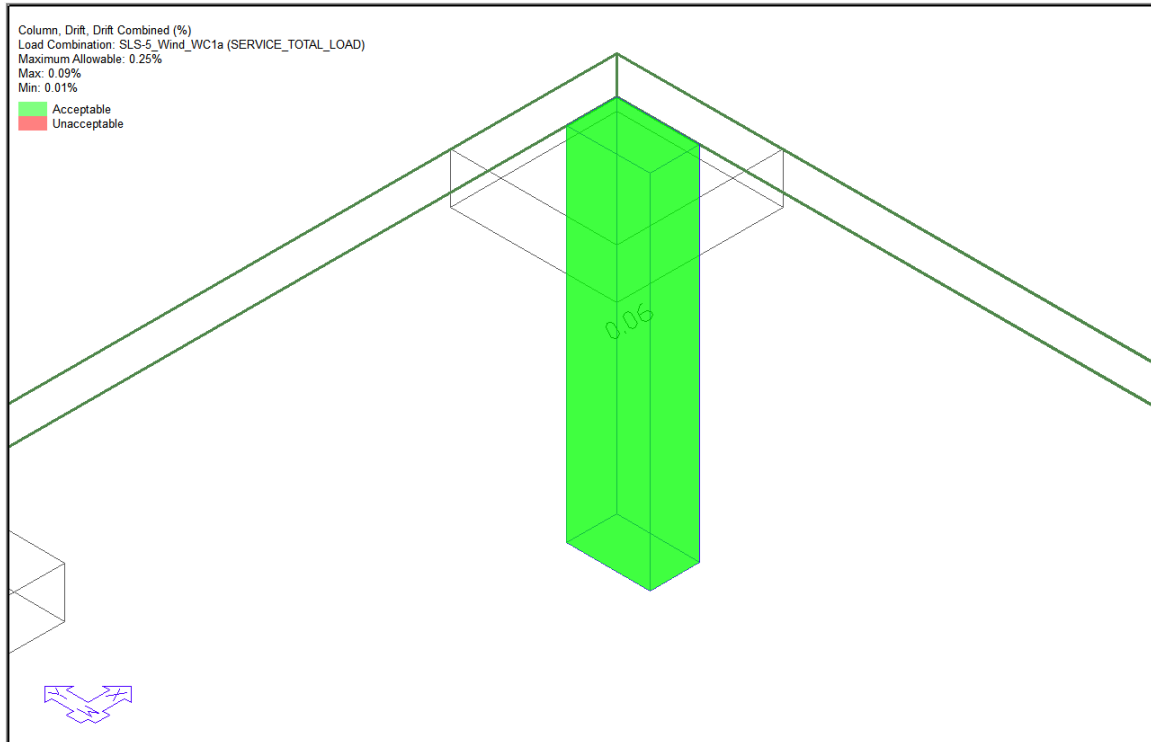

FIGURE 13-13
- In the same *Column* tree of the *Results View* panel, expand the *Drift* tree and select the option for **Drift Combined**. **FIGURE 13-13** shows the drift results. Note the green color indicates that the story drift meets the acceptance criteria in each direction and combined. The drift check considers local axis r-r and s-s displacements. The colorization is based on the entire set of combinations so even if one combination does not meet the acceptance criteria, the indication color will always be red. The values reported for drift is for the selected combination or envelope.